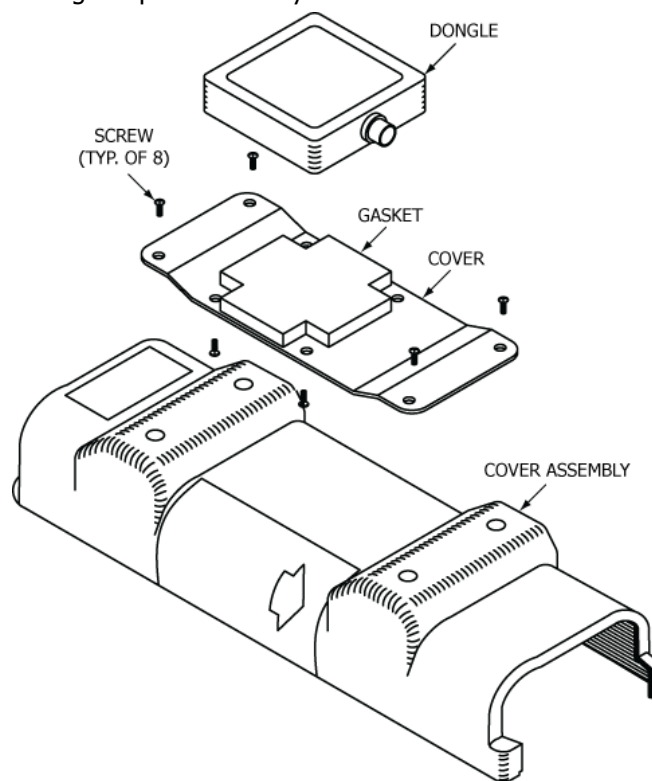

Figure 2 DGL-1 (Dongle) Programming Adapter Assembly
- 1) The Dongle is designed to mount to a protective top cover on the ELT with four screws. See Figure 2 DGL-1 (Dongle) Programming Adapter Assembly.